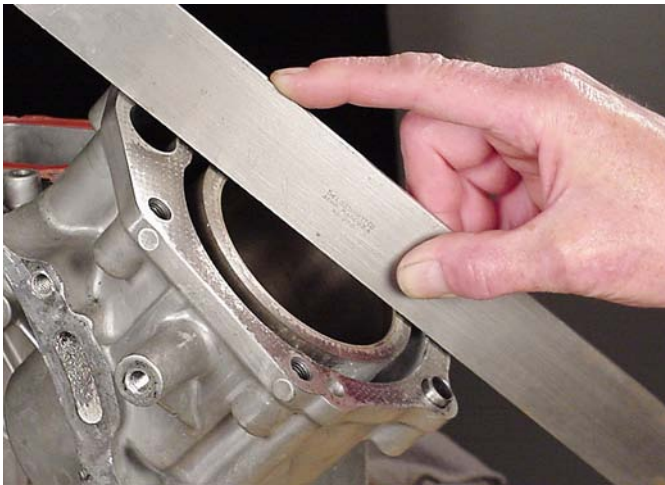

Fig. 64
1. Check cylinder head mounting surface for distortion with a straight edge, Fig. 64.